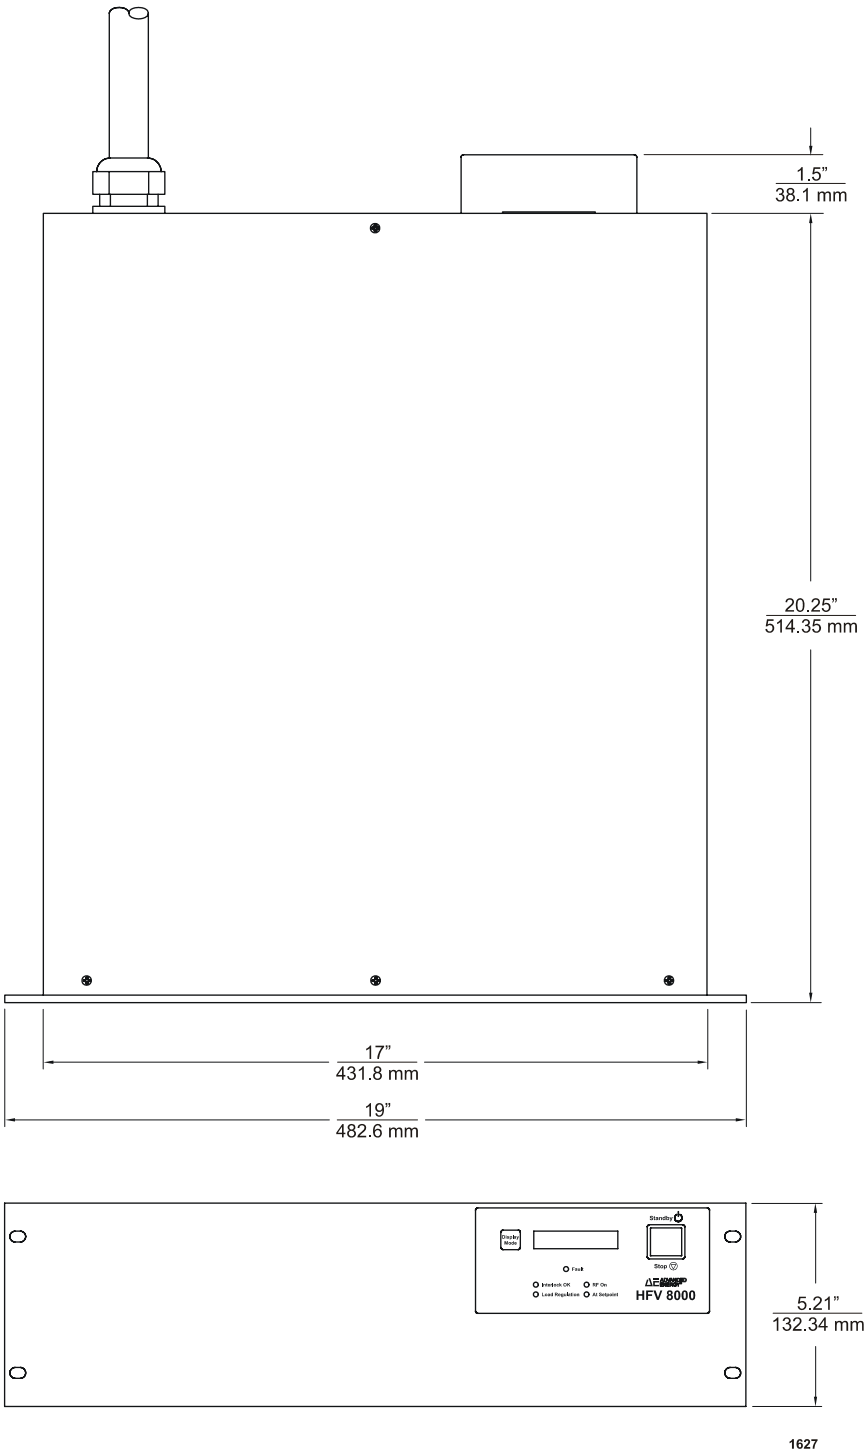

Figure 3-3. Mounting dimensions (shown without optional water solenoid)**Table 3-2.** Physical specifications
Figure 3-3 illustrates the HFV generator’s physical dimensions, and Table 3-2 describes the physical specifications.
Size	13.3 cm (H) x 43.2 cm (W) x 51.4 cm (D) 5.25" (H) x 17.0" (W) x 20.25" (D). Allow 10.16 cm (4.0") additional depth for line cord service loop (right-hand side of rear panel). Allow 3.81 cm (1.50") additional depth for the RF output cover (left-hand side of rear panel). Allow 11.94 cm (4.7") additional depth for the optional water solenoid. See also Figure 3-3 on page 3-6 .